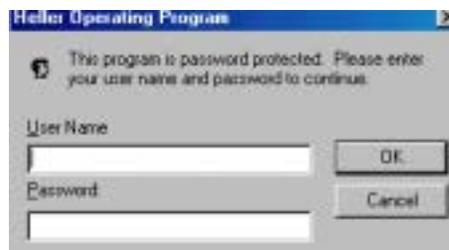

Figure 22
- e. Log On displays the new user log on screen that allows a change to the user name and password for the current user. This user will gain access to the functions available to his/her assigned user level. **Note this screen is password protected.** Click the Log On icon on the main toolbar or from the menu bar click Utilities then Log On. **See Figure 22.**